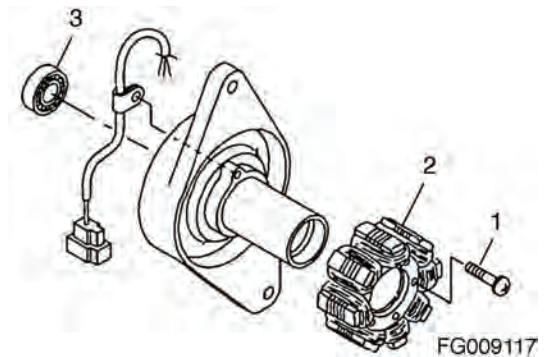

Figure 409
1. Reinstall the rear bearing (3, Figure 409).
2. Reinstall the stator (2, Figure 409) and screws.